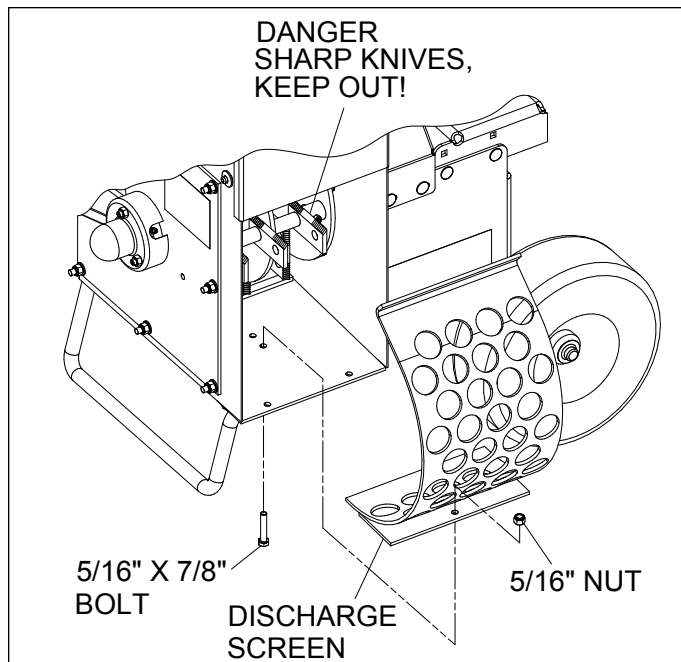

Figure 5.3 - Replacing the Discharge Screen
2. Remove the 5/16" x 7/8" bolt and nut securing the discharge screen to the frame (Figure 5.3).